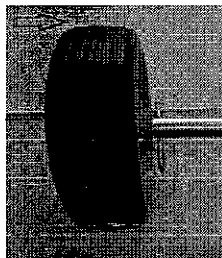

fig.2
**! - Place the mixer on a stable, level surface (max slope 5°, see fig.2), so that it doesn't sink into the ground or tip over when running.**
FIT THE WHEELS ONTO THE AXLE (FIG. 2)